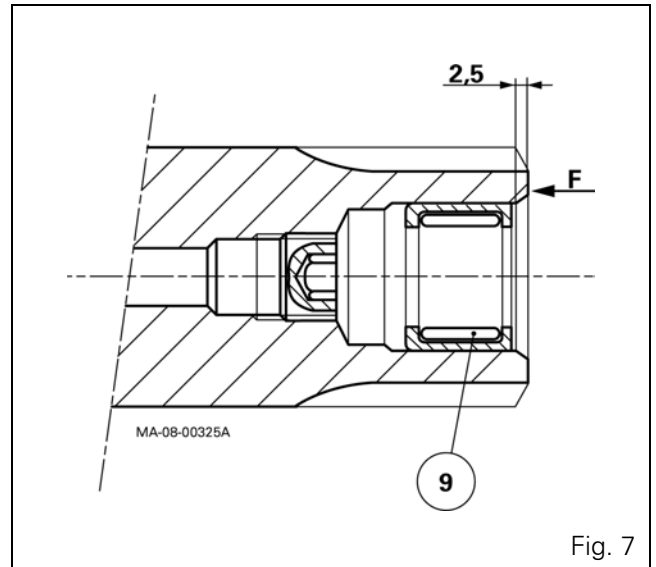

Fig. 7
30. Tighten the plug (8) smeared with Loctite 542 to a torque of 10 Nm.
31. Fit the needle bearing (9) 2.5 mm short of the face F (Fig. 7).
32. Fit the bearing cone (19) against the shoulder on shaft (25).